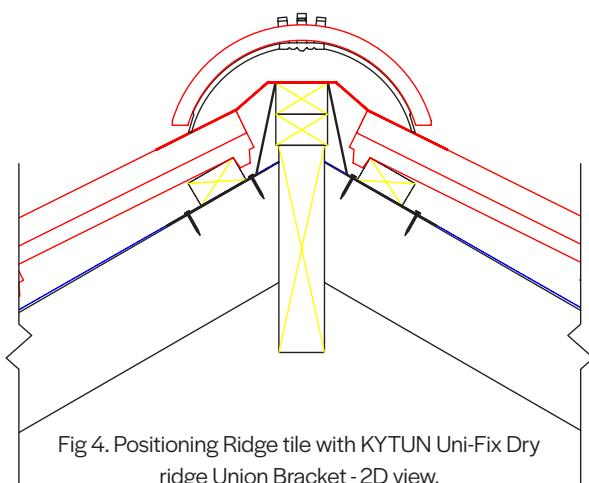

Fig 4. Positioning Ridge tile with KYTUN Uni-Fix Dry ridge Union Bracket - 2D view.
4. Lay the Ridge tile along with KYTUN Uni-Fix Dry Ridge Union Bracket on the roof to ensure placement is correct. (Fig.4)